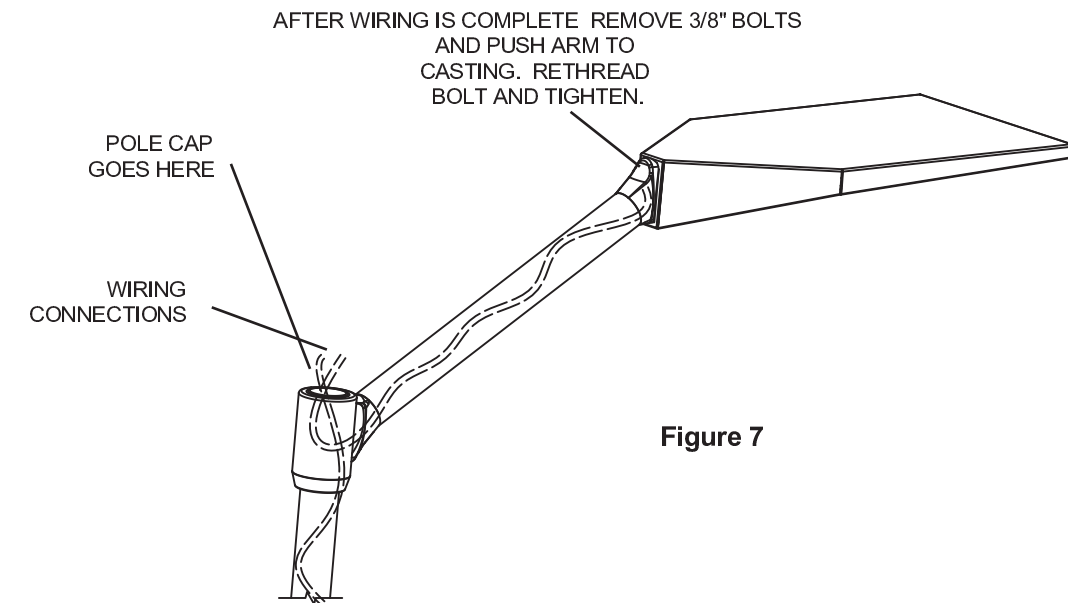

Figure 7
3. Remove the two 3/8" bolts from the top hole in boot castings. Slide assembly together, so the arm ends bottom out against the boot casting ends. Rethread bolts in same holes with lockwashers, this time tightening with socket wrench and 9/16" socket. See Fig. 7.
1. Make supply wiring connections at handhole in pole. See Fig. 7.